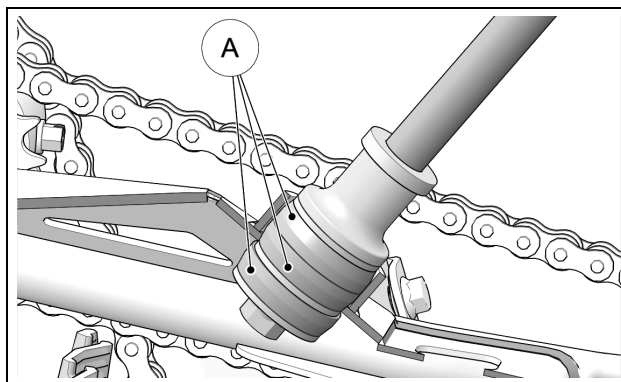

Figure 31
Inspect the Rubber Dampers (A) mounted on anti-rotation arm. Replace them if they show cracks or are excessively worn or deformed. Figure 31.